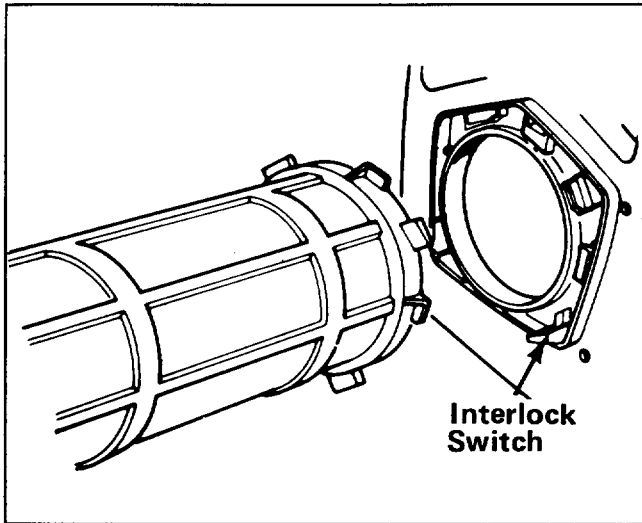

Figure 4
4. Insert upper tube into blower inlet and rotate clockwise until tabs lock (Fig. 4). Angled end of lower tube should be positioned downward.